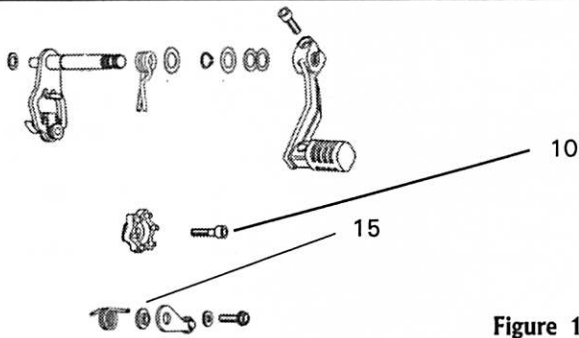
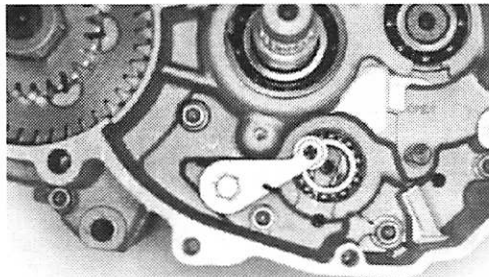

Figure 101
Figure 103
Refer to Figure 101 when installing the external shift mechanism.
2. Install the step ring (15, Figure 101) onto the backside of the index lever, then install the index lever, Taptite screw and washer (Figure 103). Hook the index spring onto the bottom of the index lever (Figure 103). Tighten the Taptite screw securely.
5. Hold the shift drum cam with one hand, then slowly remove the screwdriver and allow the index lever to move out and contact the shift drum cam. Install the shift drum cam Allen screw (10, Figure 101) and tighten to 10 N.m (85 in.-lb.).